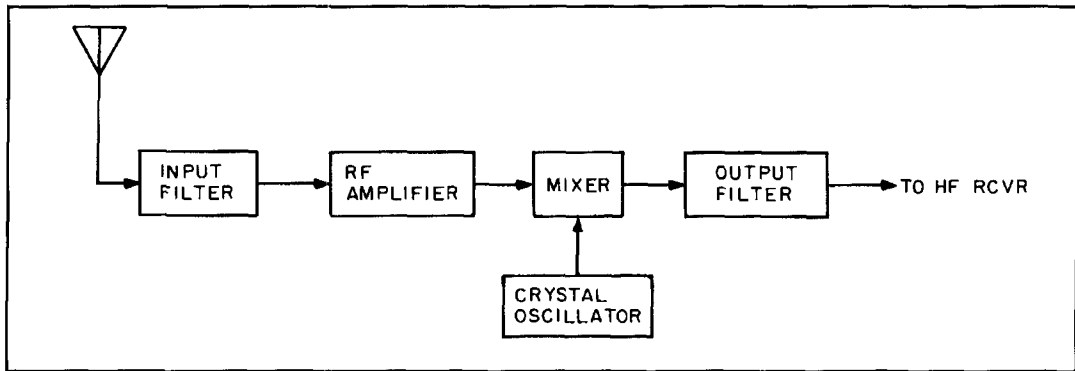
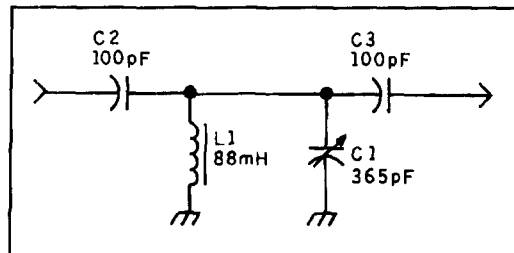
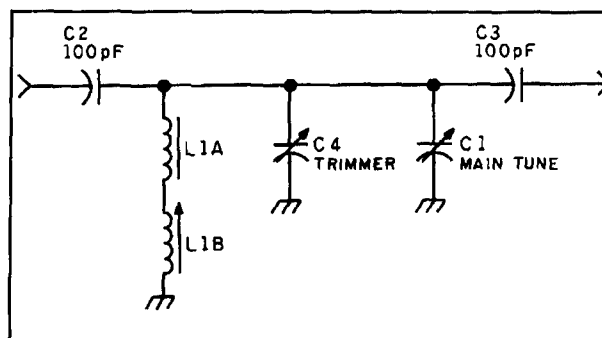
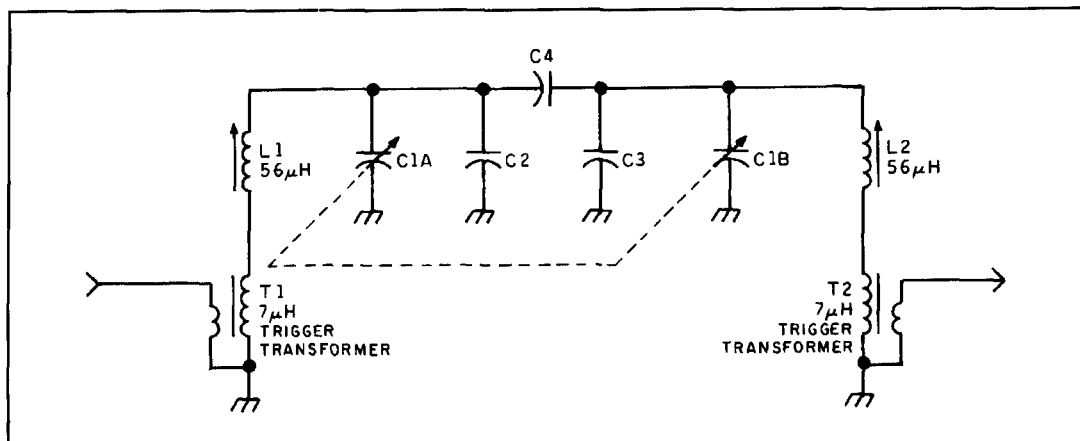

Figure 2. Block diagram of a VLF-to-HF converter.
Figure 5. Tuned circuit for the Stokes TRF receiver.
Figure 6. Modified version of *Figure 5* that allows alignment of both L and C.
Figure 8. Use of xenon flash tube "trigger transformers" to provide low impedance input and output coupling.
In **Figure 2** the SWR is higher than 2 at all frequencies in the 28-MHz band, and is barely lower than 2 for only a very small range at 14 MHz. In **Figures 3, 4, 5, and 6** the 14-MHz responses are comparable to those of a half-wave dipole; but those for 28 MHz are generally much poorer—except for **Figure 6**, which is for the Type 3 antenna with the series L-C circuits. Therefore, in general, two-band tuning causes a significant deterioration in the frequency response. **Figure 12** predicts this per-
**Converters.** The converter is a subclass of superheterodyne receivers (**Figure 2**) in which the VLF band is frequency translated to the high frequency (HF) bands. The typical converter circuit is rather simple. An input filter (either bandpass or tuned to a specific frequency) feeds an optional RF amplifier, and then a mixer. A fixed-frequency crystal oscillator mixes with the RF signal to produce an output on an IF that's in the ham band, or some other shortwave band. For example, to receive 10 to 100 kHz, the input filter (**Figure 2**) could be a bandpass filter with  $-3$  dB points at 10 and 100 kHz. The local oscillator could be a 3,600-kHz crystal oscillator. The output filter is a 3,610 to 3,710-kHz bandpass filter, the output of which is fed to an 80-meter ham band receiver. It's necessary to reduce the feedthrough of the 3,600-kHz crystal oscillator signal to the
The Stokes TGB receiver (1991 design) used a tuned circuit like that shown in Figure 5. The circuit originally included a J.W. Miller 6319 inductor, but apparently these are no longer available. The 1993 TRF design used 88 mH "telephone" toroid inductors. The TRF circuit (Figure 5) used the 88-mH inductor paralleled by a 365-pF variable capacitor, and isolated for DC by a pair of 100-pF capacitors (C2 and C3 in Figure 5).
Unfortunately, the tuning range of the simple circuit in Figure 5 isn't easy to adjust; i.e., the receiver cannot be aligned. A variation on the theme, shown in Figure 6, adds a small variable "trimmer" capacitor (C4) shunted across the main tuning capacitor (C1), and a trimmer inductor (L1B) in series with the main fixed inductor (L1A). It would be nice to obtain a single inductor with the tuning range, but they are hard to find these days. As shown, the circuit can be adjusted over about 10 percent of the inductance range. In one version, a 100-mH
Figure 8 shows a different approach to the design of receiver front-ends. One of the problems in VLF receiver design is providing low impedance link coupling into and out of the L-C tank circuit. Large inductance coils aren't often available with low impedance transformer windings. For example, in the Digi-Key cata-
log, the largest coil with such a winding is a 220- $\mu$ H unit intended for the AM broadcast band. I found a solution in the series inductor method detailed above (**Figure 6**). In this case, however, I connected a 56-mH variable inductor in series with a xenon flash tube trigger transformer. These are T1 and T2 in **Figure 8**. The version selected was intended to fire a 6,000-volt fast rise time pulse into a xenon flash tube, and has a nominal inductance of 6.96 mH  $\pm$  20 percent.\* The measured inductance was 7.1 mH, and the self-resonance frequency was 140 kHz. Without the trimmer capacitors, the tuning range was 30 to 60 kHz when a 2 x 380 pF variable capacitor was used. The addition of a 600-pF trimmer across each section of the main tuning capacitor reduced the tuning range to 20 to 30 kHz.